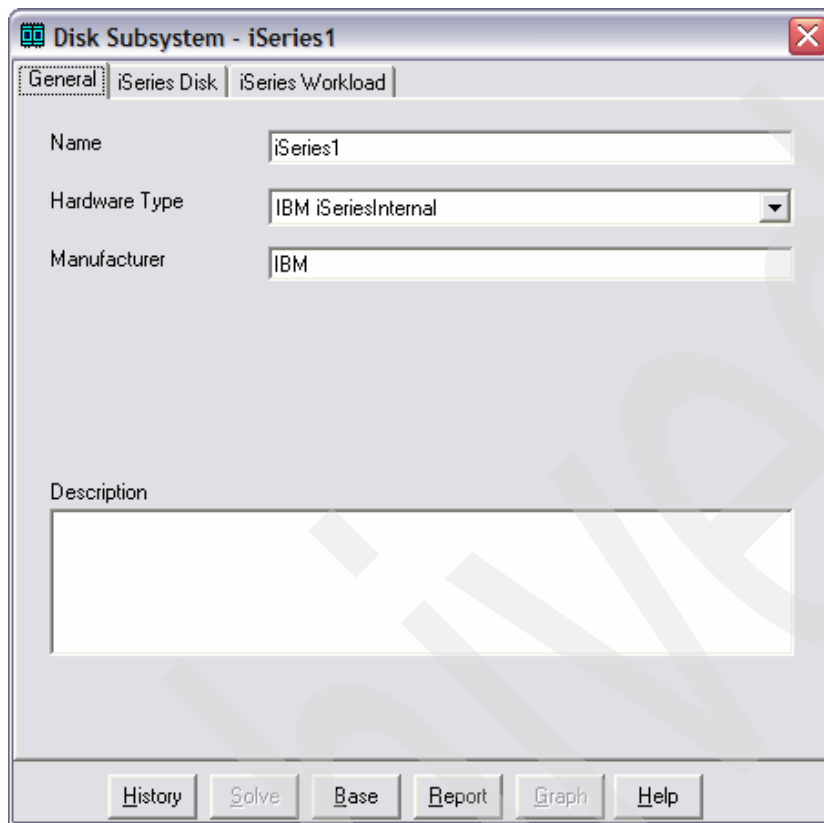

Figure 4-24 Disk Subsystem window: General tab
6. The Disk Subsystem - iSeries1 panel displays, which contains data about the current workload on the internal disks. The General tab shows the current type of disks (Figure 4-24).